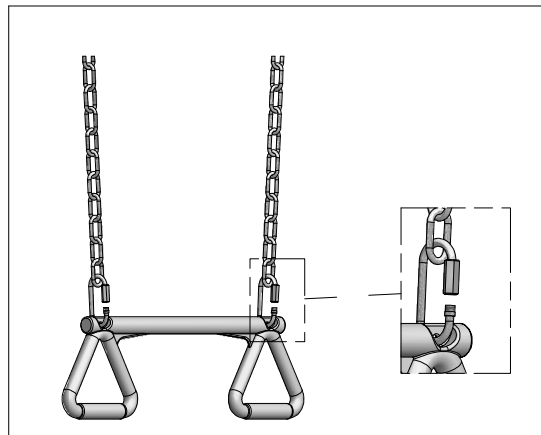

FIG. 3
**ATTACH TRAPEZE TO (2) FW CHAINS USING (2) FA QUICK LINKS. (FIG. 3)**